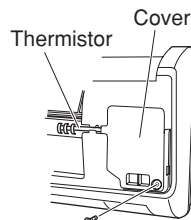
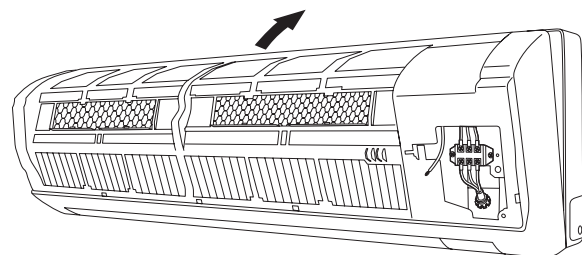

Fig. 17a
Fig. 18b
- (3) Remove the screw on the right side cover plate and open the cover. (Fig. 17a)
- (1) When installing the grille, place the bottom of the grille into the frame first. (Fig. 18b) Then insert the tabs on the top of the grille and on the front face into the frame.
- (2) Make sure that the grille and frame are firmly fitted together by engaging the tabs.
- (3) Attach the thermistor on the grille. (Fig. 17a)
- (4) Close the cover and replace the screw. (Fig. 17a)